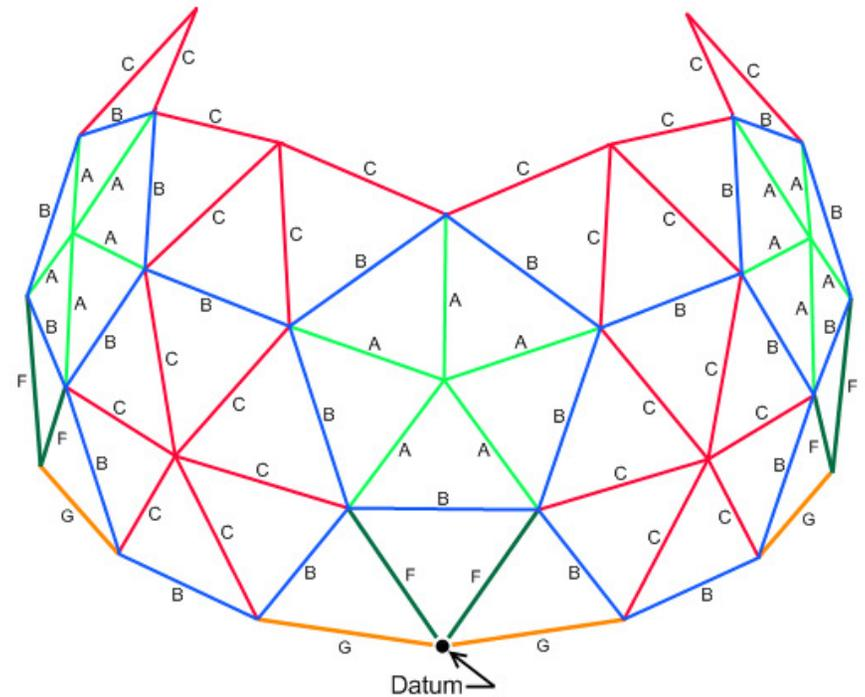

Figure 10 - Attach cross struts (All C's).
- Count out 10 C's. Starting above the datum, use the C struts to connect the tops of each of the triangles formed in the last step. See Figure 10.